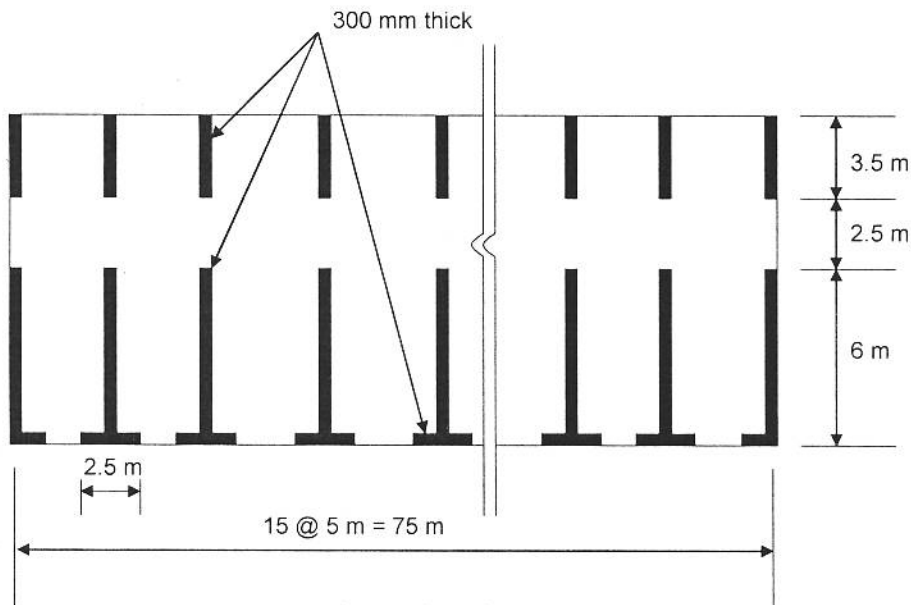

Fig. 3: Plan of a cross wall structure
3. Figure 3 shows the floor plan of a cross wall structure. The shear walls are interconnected through beams ($300 \text{ mm} \times 400 \text{ mm}$). The building is 105 m high (30 stories, each of 3.5 m height). The bases of the walls are fixed. A uniform wind load of 1.75 kN/m^2 acts on the building parallel to the short direction. Calculate the stresses due to wind load at the base of each wall in an interior panel. Use the continuous medium method and graphs prepared by Coull and Choudhury. (25)